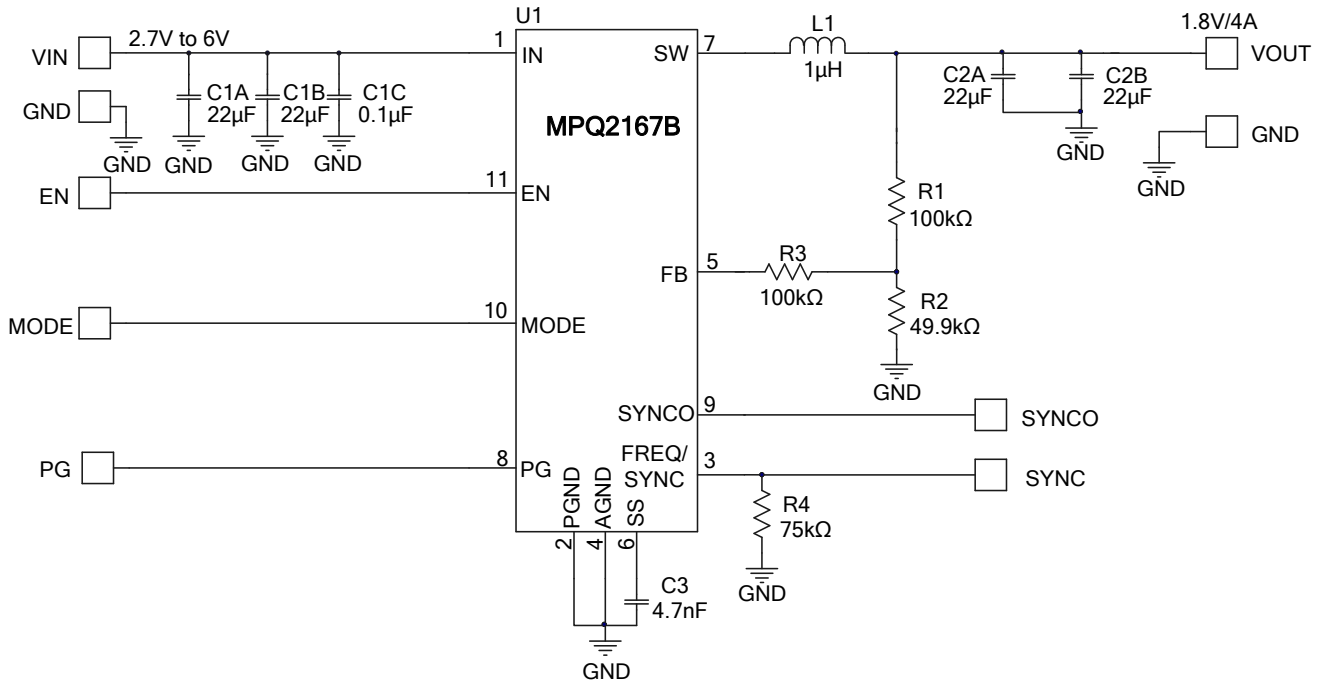

Figure 5: $V_{OUT} = 1.8V$, $I_{OUT} = 4A$ Application Circuit
7) The recommended PCB layout is based on Figure 5.